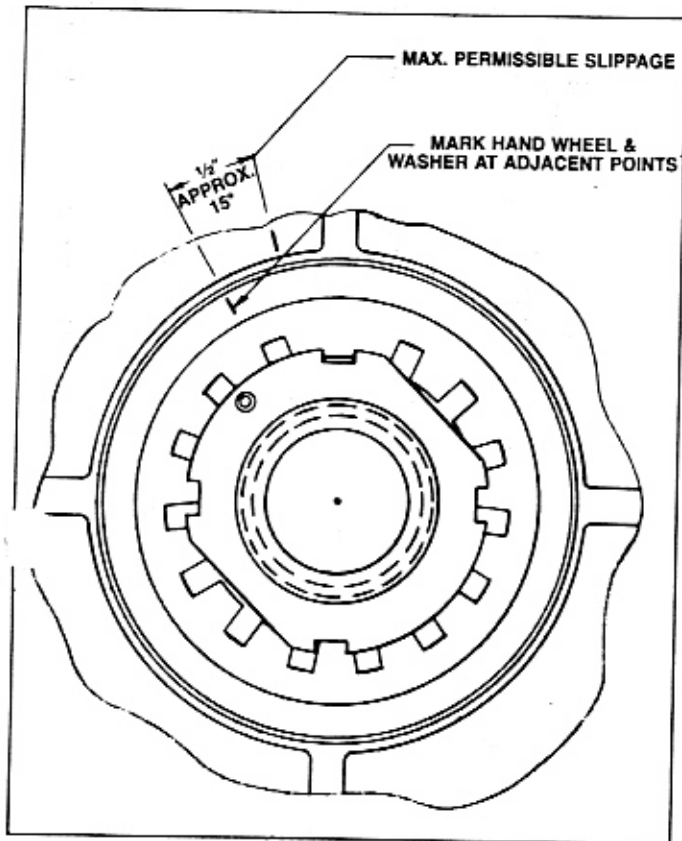

FIGURE 4
1. To check for excessive slippage remove handchain wheel cover and apply a pencil mark to the washer and to an adjacent point on the handchain wheel (See Figure 4).
5. If the displacement of the two marks exceeds 15° or 1/2" (See Figure 4) the slip torque should be increased by tightening the Adjusting Nut (Part No. CB-105) in clock-